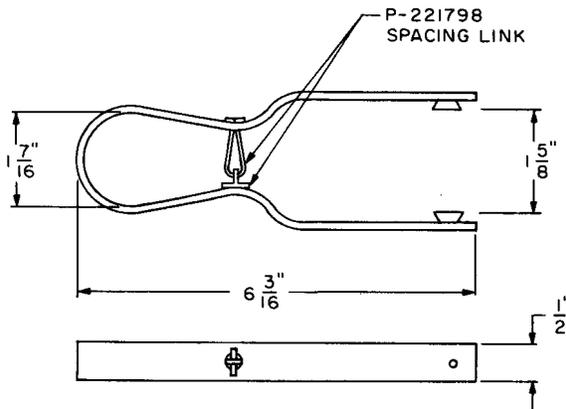

Fig. 1—90B Cover Remover Tool
2.02 90B: The 90B cover remover tool (Fig. 1) is used on 5-, 12-, and 14-type line and traffic registers.